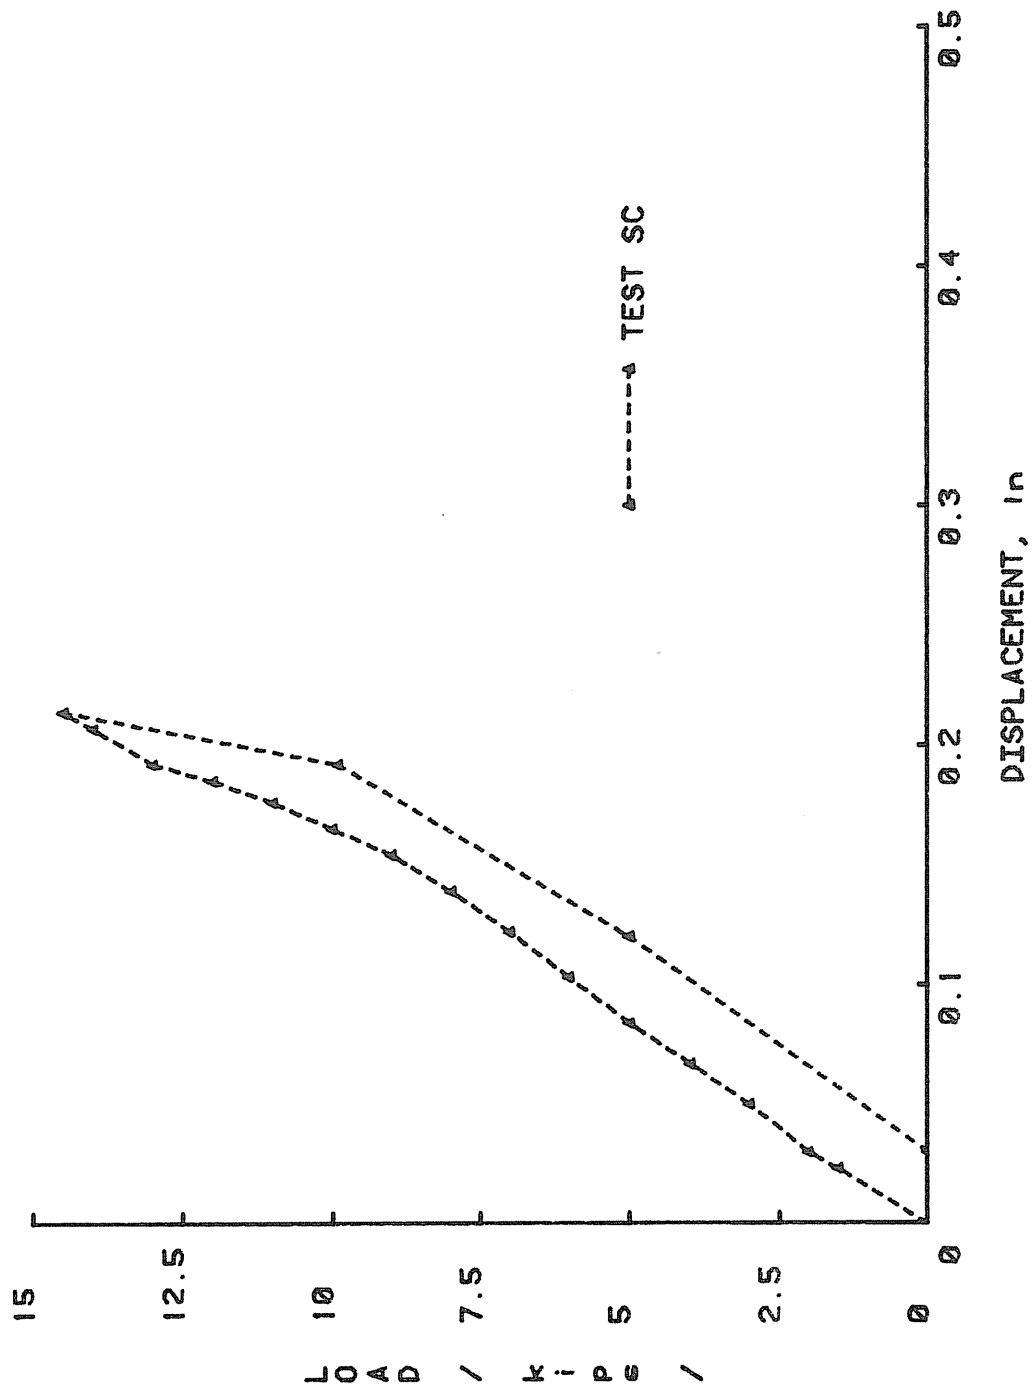

FIGURE C.5 LOAD VS. COLUMN EXTERIOR CHORD OPENING, TEST PBP3
- Figure C.5 shows that the opening of the column exterior chord member was essentially linear throughout the test and showed some permanent set upon the unloading of the frame.